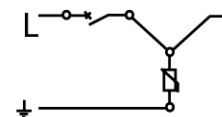

Figure 1
(1) From the power supply switch wiring to the protector, and the protector line to the load side. This method is suitable for load distribution box electric current below 100A. The use of wire section should be selected according to the load current (see Figure 1)
(2) From the power supply switch wiring to the protector, also from the line to load side power switch. This applies to the load current is more than 100A power distribution box.